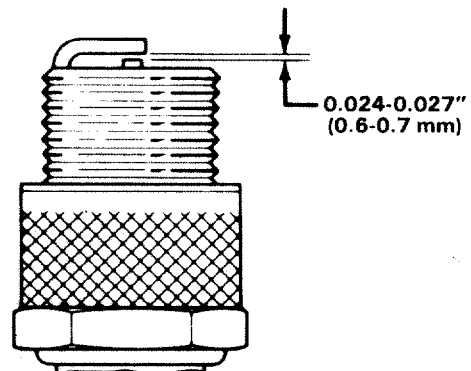

Figure 14
5. Set air gap between center and side electrodes at 0.024-0.027 of an inch (0.6-0.7 mm) (Fig. 14). Install correctly gapped spark plug w/gasket seal, and tighten plug to 15 ft-lb (20.4 N·m). If torque wrench is not used, tighten plug firmly.